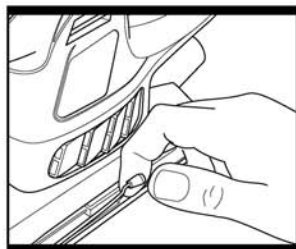

Fig. 1
1. CHANGING SANDING SHEET (Fig. 1&2)